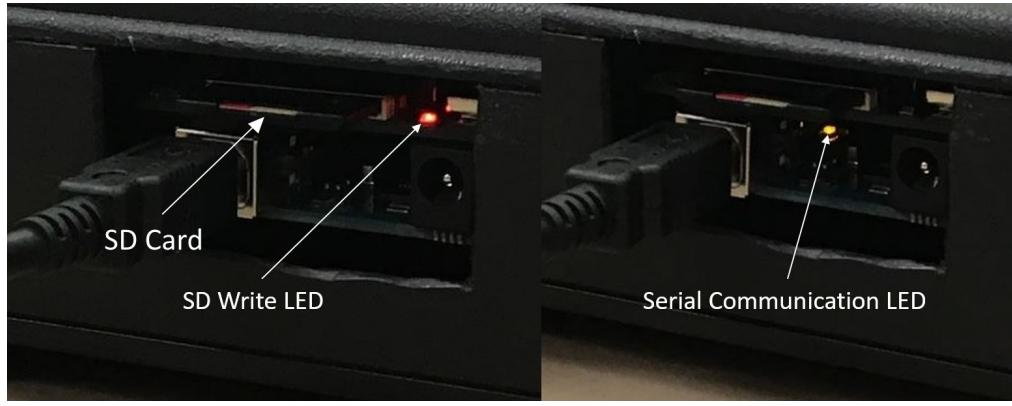

Figure 4: Control LEDs inside the TADA
- Upon opening the program, a yellow LED in the TADA should begin flashing (See Figure 4)